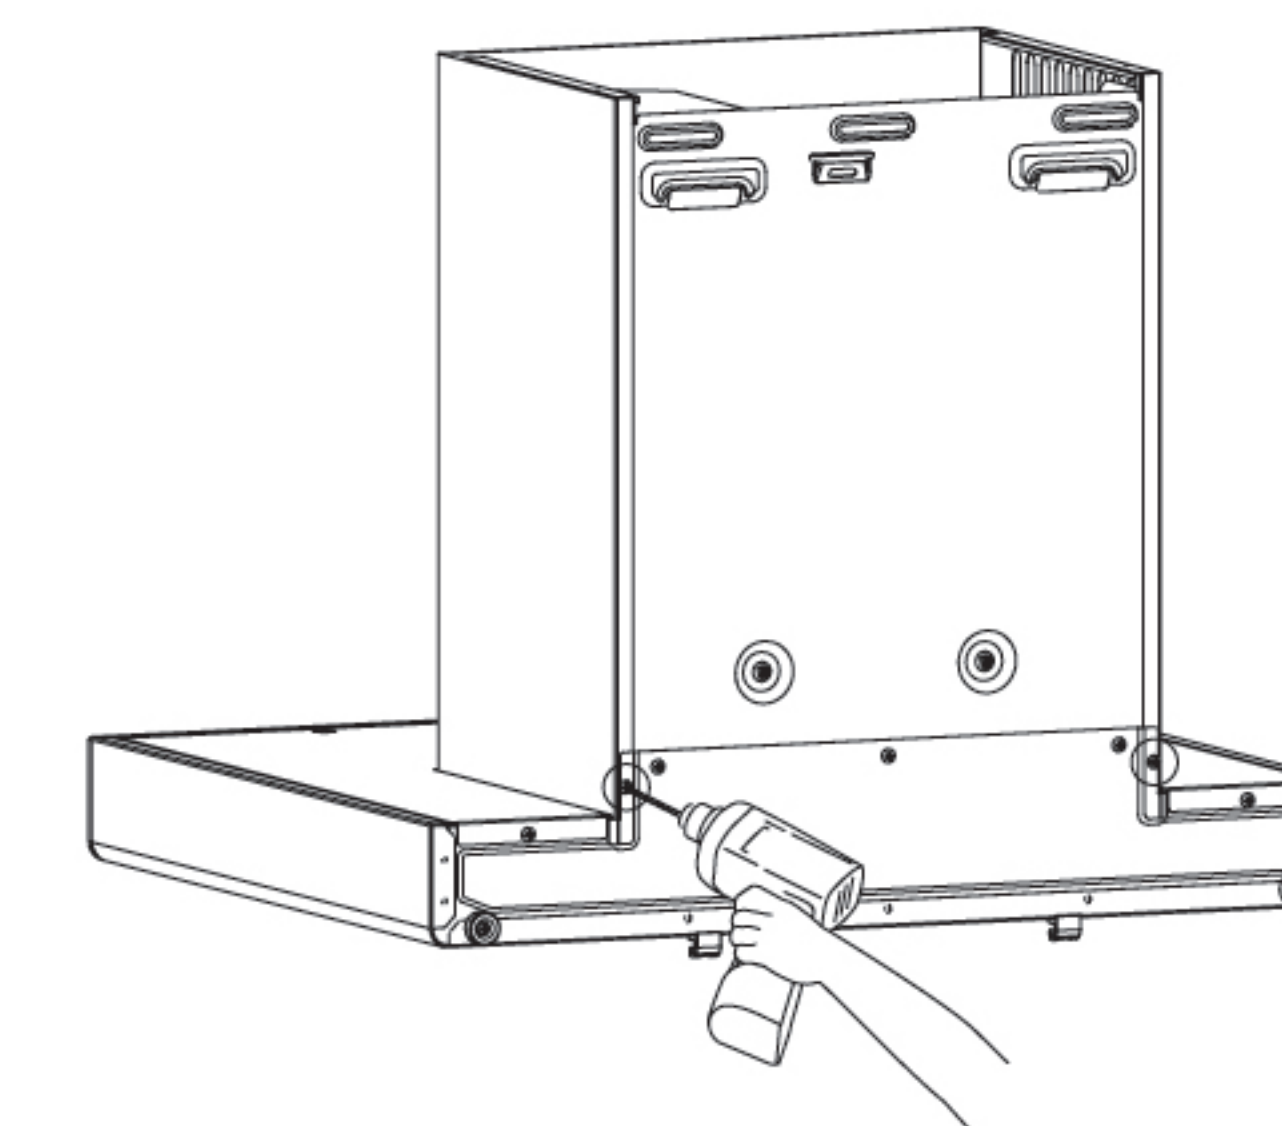

Fig.8
2. Remove the fan cover and decorative hood : remove the 2 screws that fix the fan cover behind the main body with a screwdriver(see Fig.8), and then grab the fan cover and decorative hood with both hands to take them out upward(see Fig.9);